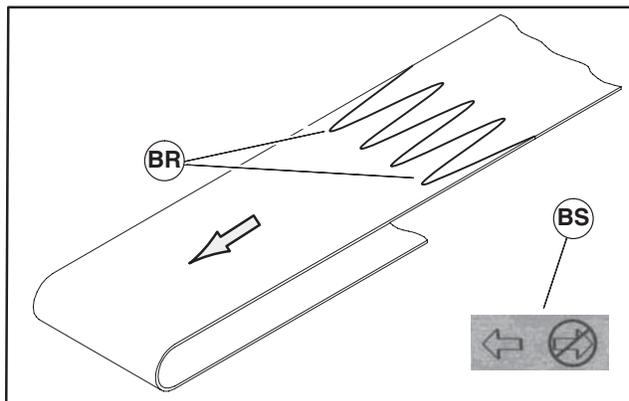

Figure 40
1. Orient belt so splice leading fingers (Figure 40, item BR) point in the direction of belt travel as identified by the conveyor directional label (BS).
2. Orient belt so splice leading fingers (Figure 40, item BR) point in the direction of belt travel as identified by the conveyor directional label (BS).
3. Install belt (Figure 40, item BJ) on conveyor. Lift conveyor slightly to avoid pinching belt on temporary support stands.